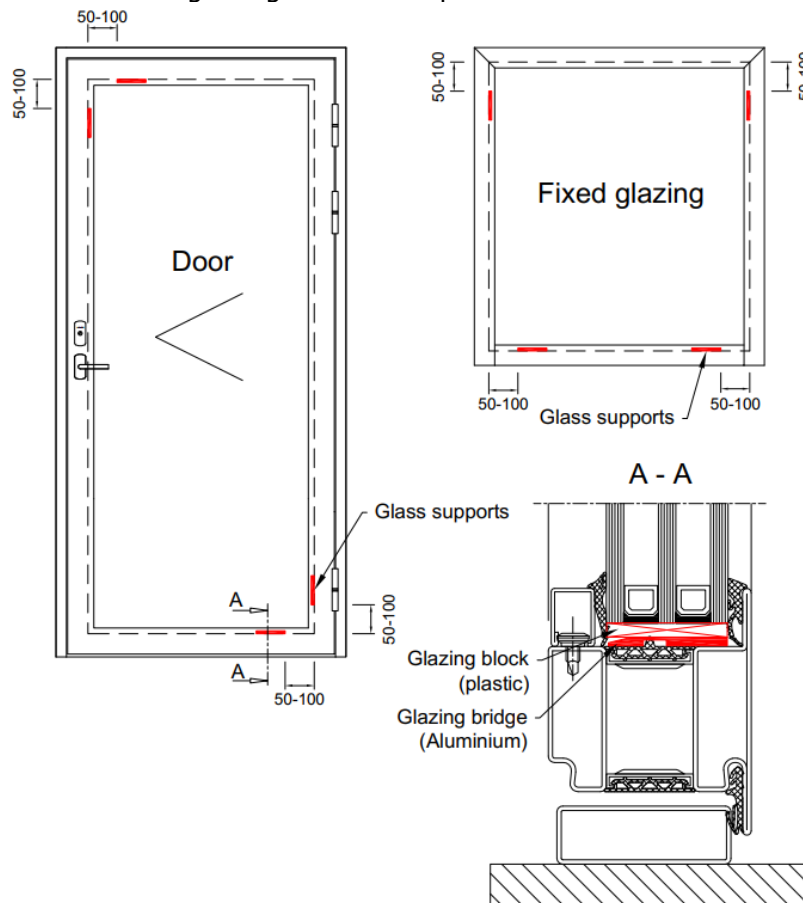

Figure 12 Glass supports locations
5. Glue the aluminium glass bridges to the frame and place plastic glazing blocks on top of them. The thickness of the glazing blocks is equal to the thickness of the glass (Figure 12).